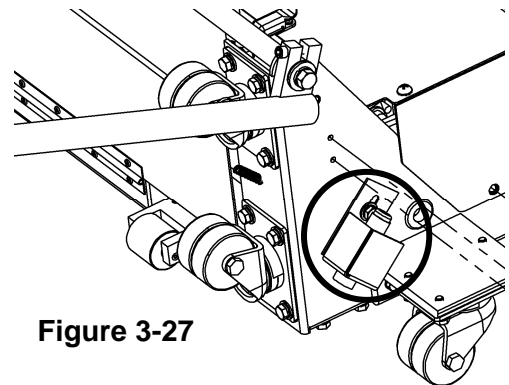

Figure 3-27
1. Locate the sensor on the bracket over the back, right caster wheel, as shown in Figure 3-27.